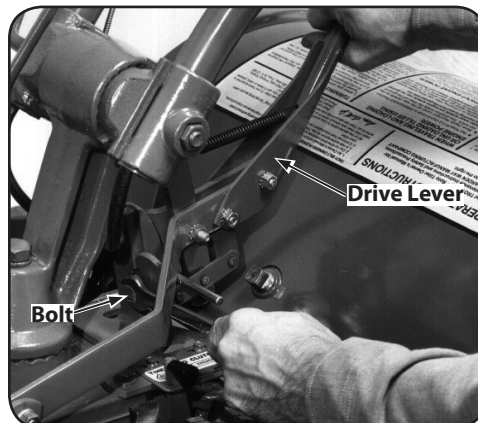

Figure 5-17
5. Use one hand to hold the drive lever in FORWARD while using a $\frac{9}{16}$ " wrench to loosen — don't remove — the bolt at the back of the belt adjustment block. See Figure 5-17. The adjustment block should be free to move either up or down.